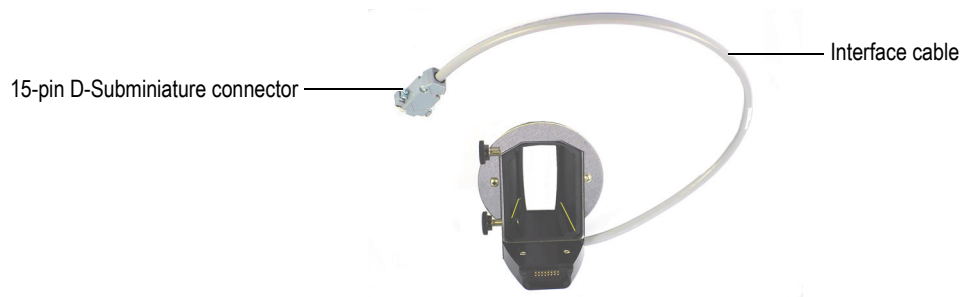
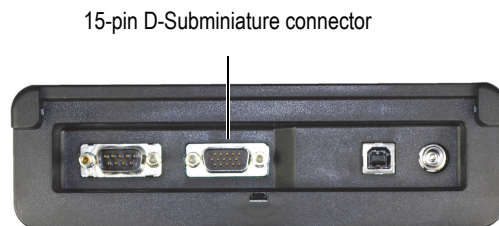

Figure F-15 Probe-adaptor interface cable
Figure F-16 Test-stand I/O panel
1. Connect the probe-adaptor interface cable (15-pin D-Subminiature connector) to the workstation I/O panel (see Figure F-15 on page 174 and Figure F-16 on page 174).